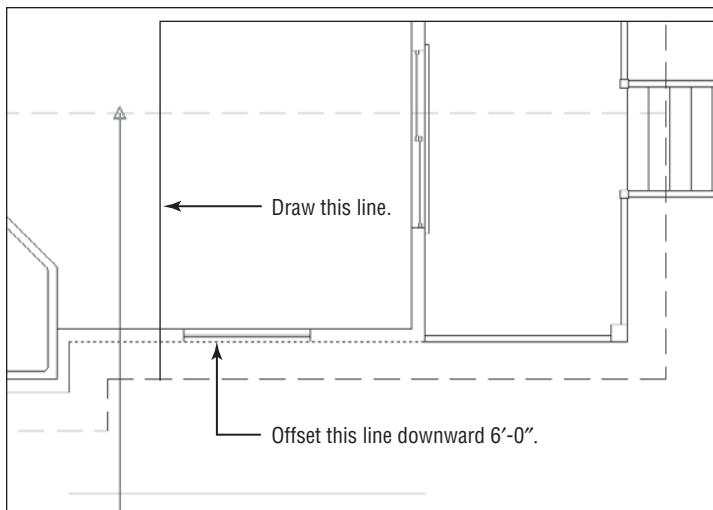

FIGURE 8.8 The new lines created after offsetting the ridge line and the pop-out
5. Offset the horizontal, outside wall line to the right of the pop-out in the floor plan down 6' (1830 mm), as shown in Figure 8.8.